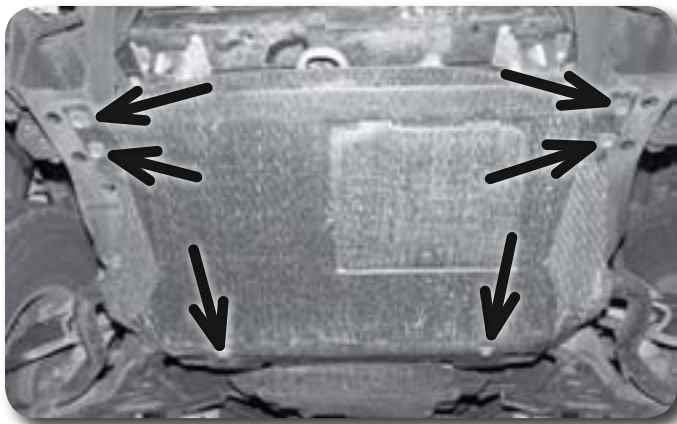

Figure 7
10. Remove the six bolts and the front skid plate from the vehicle **Figure 7**.